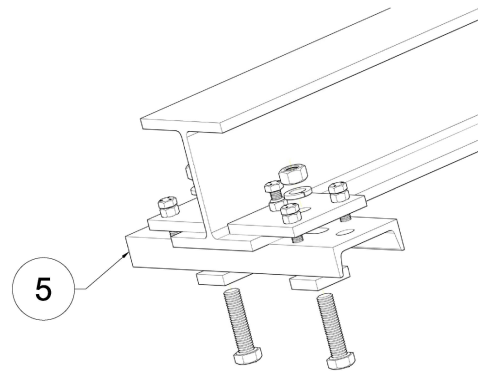

Figure 2
6. Find the center location (center of Mat Storage System when installed) on the supporting beam and install one of the adjustable clamps as shown in Figure 2. Adjust the two $\frac{1}{2}$ " clamp plate bolts to contact the clamp channel so that the clamp plate is level when resting on the flange of the beam or truss. Do not tighten any bolts at this time. Snug the $\frac{3}{4}$ " bolts to keep the clamp from moving on the truss. These bolts will be tightened when the Mat Storage System is in place and supported by the threaded rod attachments.